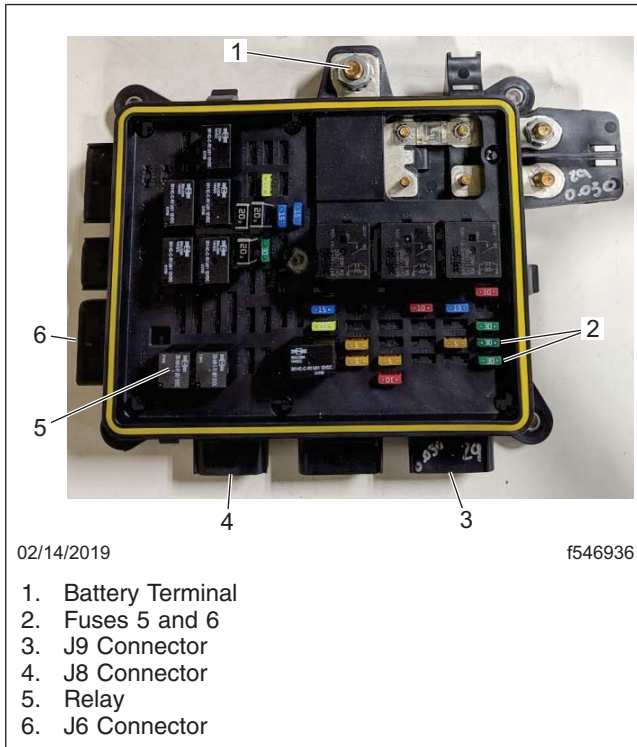

Fig. 2, PDM Components
REVISIONS: The NHTSA number has been corrected to 18V-582, and the work instructions have been updated. On step 8 of the work instructions the probe locations have been corrected from F6 & F7 to F5 & F6 as well as fig. 2 has been updated to match the correct locations.
IMPORTANT: The tester will work with a PDM connected to the vehicle or removed and placed on a work bench. If the PDM is being bench tested (PDM is not on the vehicle), ensure that 12V of power is supplied to the battery terminal. See Fig. 2, item 1.
5. Remove the PDM cover and locate the circuits to be tested. See Fig. 2.
6. Remove the two fuses and one relay from the PDM. See Fig. 2, items 2 and 5.
15. Remove all of the test box connectors and install the relay and fuses removed earlier. For relay and fuse locations see Fig. 2.